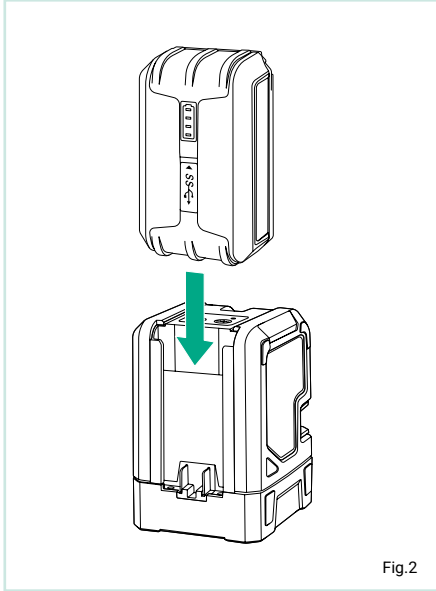

Fig.2
- To attach the battery pack, slide it onto the back of the laser level. Ensure the pins are aligned and the battery is secured in place (Fig.2)